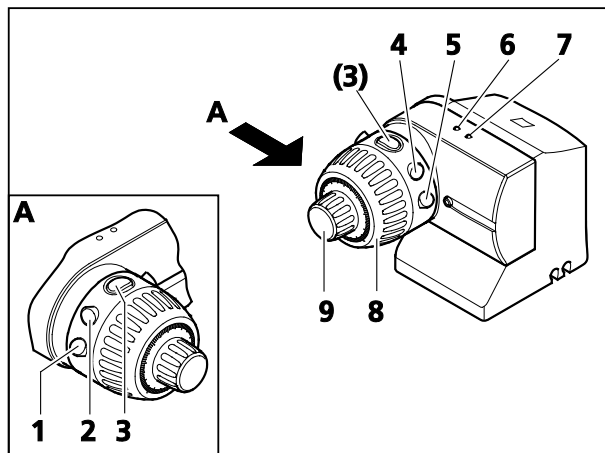

Fig. 27 Control unit on the MaRC
- Control of the focus motor by coarse (Fig. 27/8) and fine drive (Fig. 27/9)
- Travel to zoom clickstop positions by briefly pressing keys **1** and **2** (Fig. 27/1 and 2).
- Quick zoom – press keys **1** and **2** (Fig. 27/1 and 2).
- Quick zoom – press keys **4** and **5** (Fig. 27/4 and 5).
- Save a focus position – key **3** (Fig. 27/3), see also Section 4.2.6, page 42.
- Travel to a pre-saved position – key **3** (Fig. 27/3), see also Section 4.2.7, page 42.
- Reversing rotation of the MaRC unit – key **3** (Fig. 27/3), see also Section 4.2.8, page 42.
- Green control lamp (Fig. 27/6) for visual confirmation of an input or acceptance of a setting (corresponds to acknowledgement signal).
- Blue control lamp (Fig. 27/7) indicates readiness of the MaRC.
If a focus motor ready for operation is connected, the blue LED (Fig. 27/7) will light up.
The focus motor can be controlled quickly or slowly by turning the coarse (Fig. 27/8) and fine drive (Fig. 27/9).
When key **1** or **2** (Fig. 27/1 or 2) is briefly pressed (≤ 200 ms), the zoom body will travel to the next lower or higher clickstop position.
When key **1** or **2** (Fig. 27/1 or 2) is pressed for > 200 ms the zoom body will start moving; it will not stop until the respective key is released or the limit position is reached.
When key **4** or **5** (Fig. 27/4 or 5) is pressed the motor control will start to move upwards (**5**) or downwards (**4**); it will not stop until the respective key is released or the limit position is reached.
The current focus position will be stored when key **3** (Fig. 27/3) is pressed for between 2 and 5 seconds.
The green LED (Fig. 27/6) will briefly light up and **one** short beep tone on the motorized focusing system issued to indicate completion of the storing process after 2 seconds.
When key **3** (Fig. 27/3) is pressed for < 2 seconds the motor will travel to the stored focus position.
The direction of rotation will be reversed if key **3** (Fig. 27/3) is pressed for more than 5 seconds.
While pressing, first of all a **single** beep tone, then **two** tones will be issued and the green control lamp (Fig. 27/6) will flash once or twice. This indicates that the reversal has been completed.